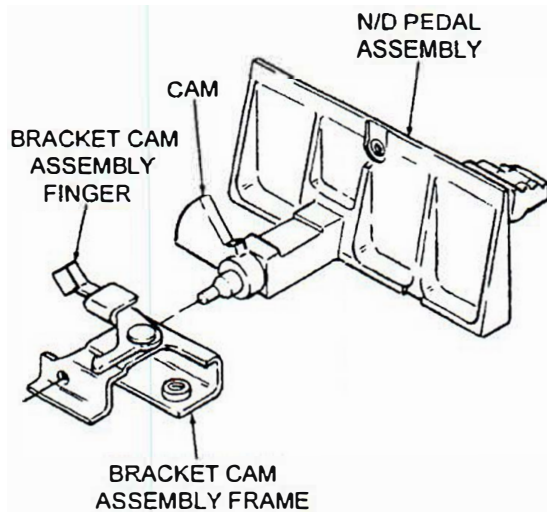

Figure 17. Bracket Cam Assembly and N/D Pedal
- D. *See Figure 17.* Inspect finger of bracket cam assembly for breaks or wear and for a bent or twisted frame. Finger should move back and forth freely. If these conditions exist, bracket cam assembly needs replacement. These conditions may result from clutch half overload gear hang up on drive balls of rear axle. Refer to Section 5.4.3 for rear axle service.
- E. *See Figure 17.* Inspect cam of N/D pedal assembly for cracks or loose fit on shaft knurling. Replace N/D pedal assembly if either condition exists.